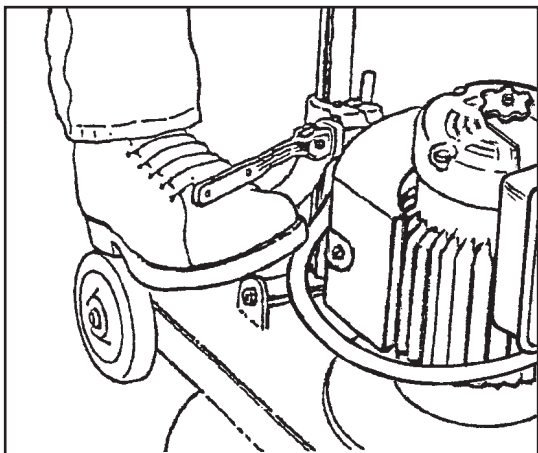

Figure 4
2. To lock the handle, push the locking lever down. See figure 4.